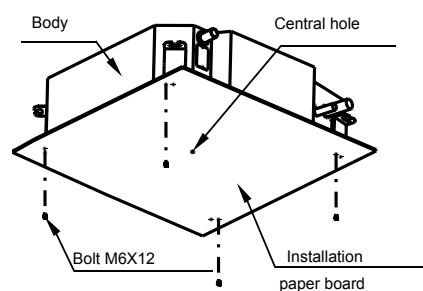

Fig.5-8
- After installing the body, please fasten the installation paper board onto the air conditioner with bolts(M6X12) to determine in advance the sizes and positions of the hole opening on ceiling. (Refer to Fig. 5-8)